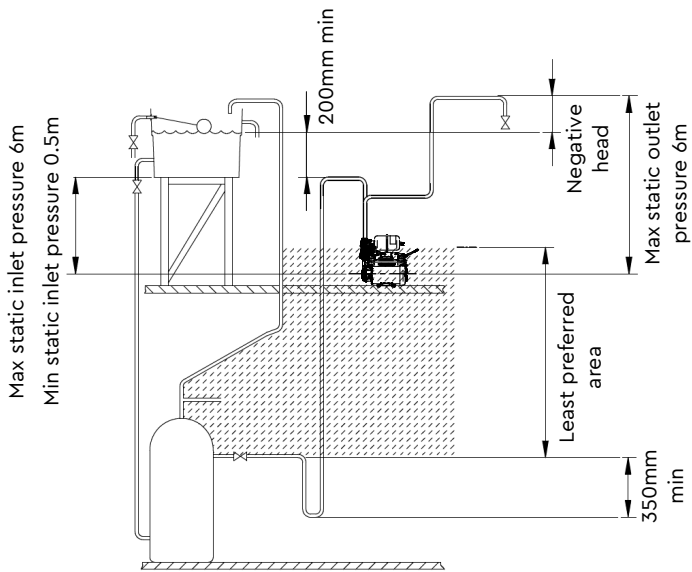
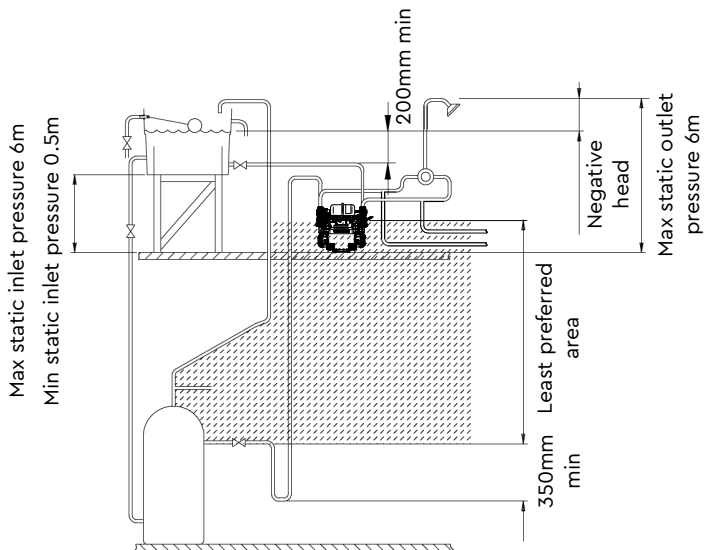

Figure 3
Figure 4
- b. The use of a Stuart Side Entry (SE) cylinder flange, which should have the addition of an inverted loop ("U" bend) of 350 mm minimum drop before rising to the pump, located as close as possible to the cylinder wall. This will ensure the pump receives an air free supply and the cylinder vents any air up the vent pipe and not the pump feed (Figure 3 and Figure 4).